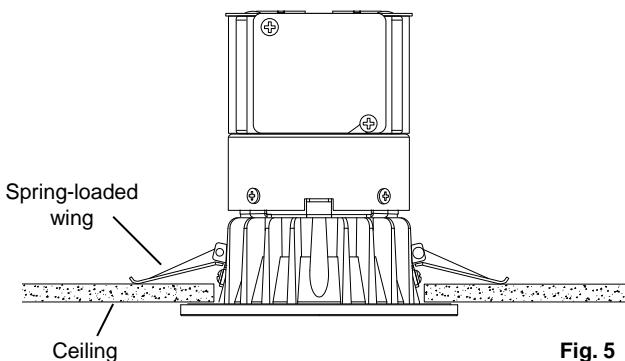

Fig. 5
9. Continue inserting the fixture into the hole, while continuing to squeeze the spring-loaded wings. When the wings reach the hole edge, release them and push up the fixture until both wings flip down onto the ceiling surface. (Fig. 5)